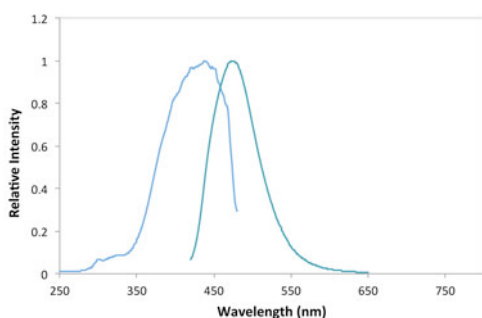
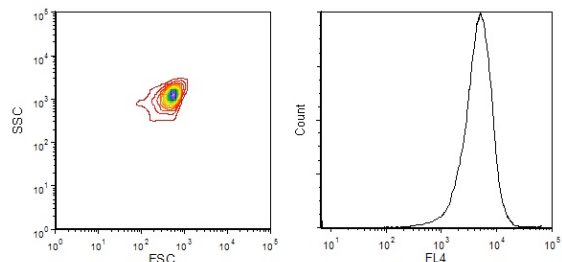

Figure 1. Excitation and emission spectra of Zepto™ Blue Carboxyl Microspheres.
Figure 2. FSC-SSC plot and fluorescence histogram in FL4 of Zepto™ Blue Carboxyl Microspheres on a flow cytometer.
The excitation and emission spectra are illustrated in Figure 1. They are a suitable for flow cytometry-based assays. Their Forward Scatter (FSC) vs. Side Scatter (SSC) plot and fluorescence histogram in FL4 (405 nm excitation; 455 nm emission) on a typical flow cytometer are illustrated in Figure 2.
1. Gate on the single population of microspheres on FSC vs. SSC plot (refer to Figure 2)